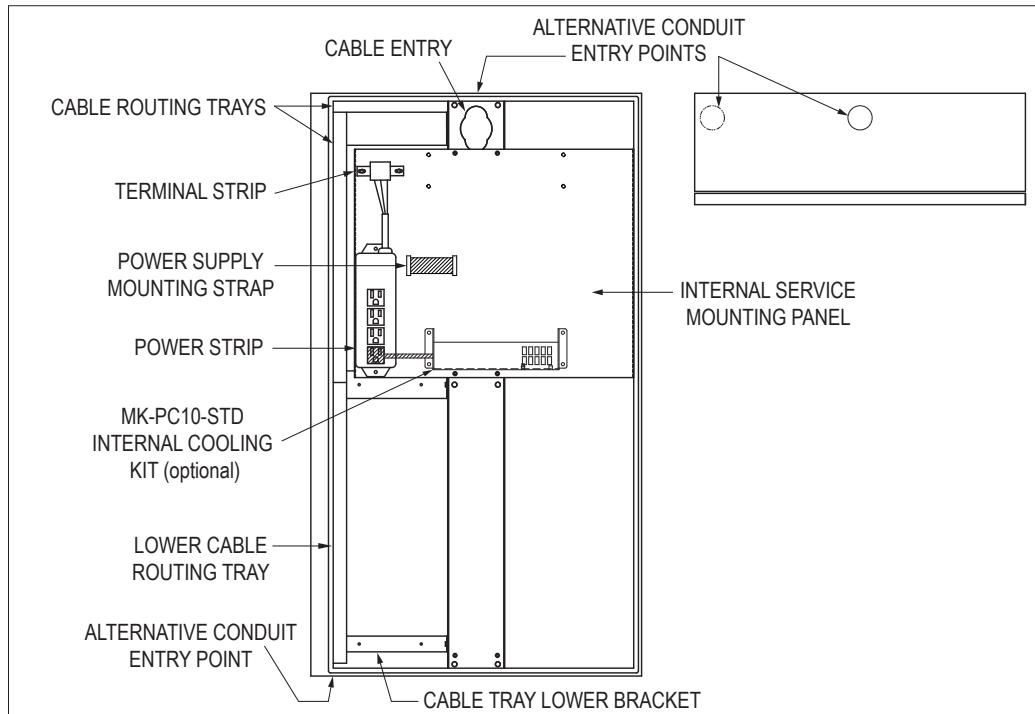

FIGURE 1 – INSIDE AND TOP VIEWS OF ENCLOSURE
1. Refer to Figure 1. A wiring entry hole is provided at the top center of the enclosure for use when pedestal or wall mounting the enclosure. If cables will not be going through the rear hole already provided, punch conduit holes as required.
**NOTE:** If punching conduit holes in the enclosure, place the hole(s) so that wires can be routed through the trays provided. See Figure 1 for alternative conduit entry points on the enclosure top, bottom, and rear walls. If necessary, remove cable routing covers and trays before drilling to avoid damage and to allow room for conduit installation. In wet environments, ensure that conduit entry points are adequately sealed.
- b. When using the optional Dell Optiplex XE2 mounting kit (part number MK-PC10-DELLXE2): Refer to Figures 1 and 4.
5. Refer to Figure 1. Install any additional equipment on the internal service panel. The panel can be removed for drilling as required.
**NOTE: If you ordered the optional MK-PC10-STD internal cooling kit, install it on the service panel now, as shown in Figure 1. This cooling kit may be low-mounted, as shown in Figure 1, or high-mounted on the top mounting pattern on the service panel. Hook up power to the internal cooling kit by plugging the kit's AC cable into an outlet on the power strip. For non-North American power strips, connect power using the alternative cable that shipped with your internal cooling kit. Connect the cable to the kit, then connect the pigtail end to the AC input terminal blocks.**
6. Refer to Figure 1. Remove cable routing tray covers and route the power cable to the power strip terminal block on the internal service panel. Route all signal cables (video, keyboard/mouse, serial, network, etc.) and AC power cables as required. For good internal air flow, all cables should be routed neatly through the trays.